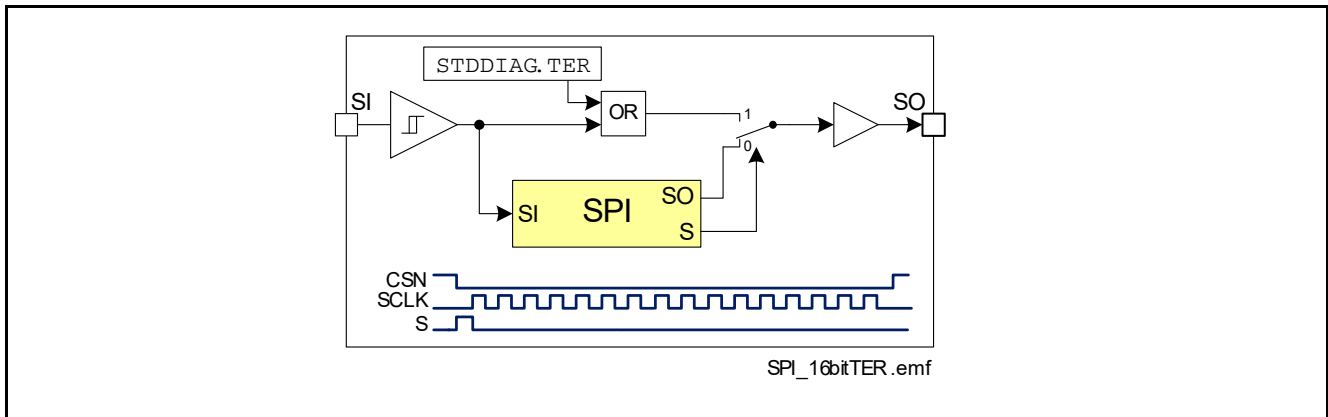

Figure 29 Combinatorial Logic for TER bit
- **TER** Flag will set the Bit number 10 in the STD diagnosis Frame. This Bit is set to HIGH after an undervoltage condition, reset via SPI command, on Limp Home state entering or after an incorrect SPI transmission. **TER** Flag can be read also directly on the SO line between the falling edge of the CSN and the first rising edge of the SCLK according to the Figure 29.